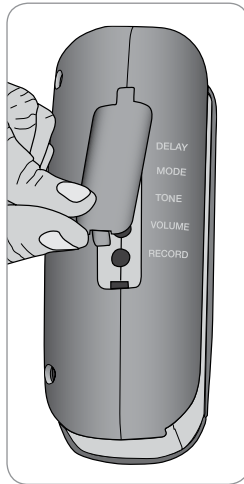

Fig. 7
1. Lift the programming control protective cover (Fig. 7).